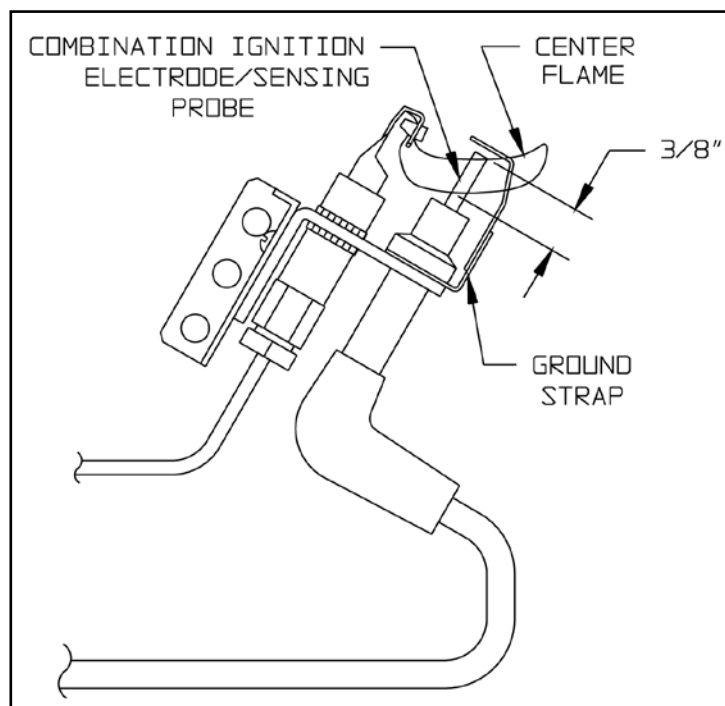

Figure 22: INTERMITTENT IGNITION PILOT BURNER FLAME
- 10) Observe pilot burner flame. Pilot burner produces three flames. The center one should be a steady medium blue flame covering around 3/8" to 1/2" of spark electrode/flame rod. See Figure 22.